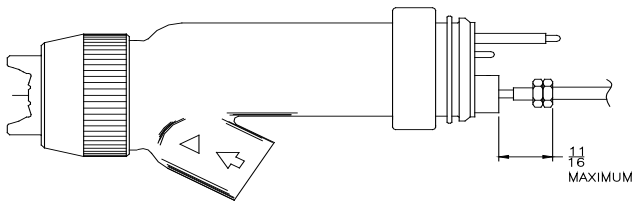

Figure 10: Rod and Trigger Adjustment Nuts
8. Screw the extension rod on the needle shaft until the hex of the extension rod is flush against the hex of the trigger adjustment screw. (Using T-Shaped Gauge on 19749-00, adjust to the 11/16-inch maximum dimension shown in Figure 10.)
9. Using two (2) 3/8" wrenches, tighten the two (2) hexes against each other to prevent movement of the parts.